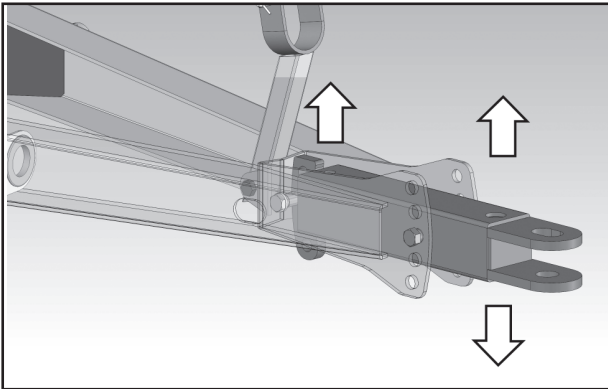

Figure 20 – Bagger levelled with towbar.
7) Level the machine by using the adjustable towbar as shown in figure 20.